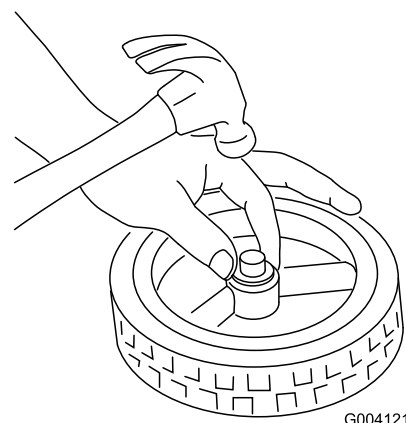

Figure 4
3. Put a pushnut onto the end of the axle and use a hammer to seat it firmly in place (Figure 4).